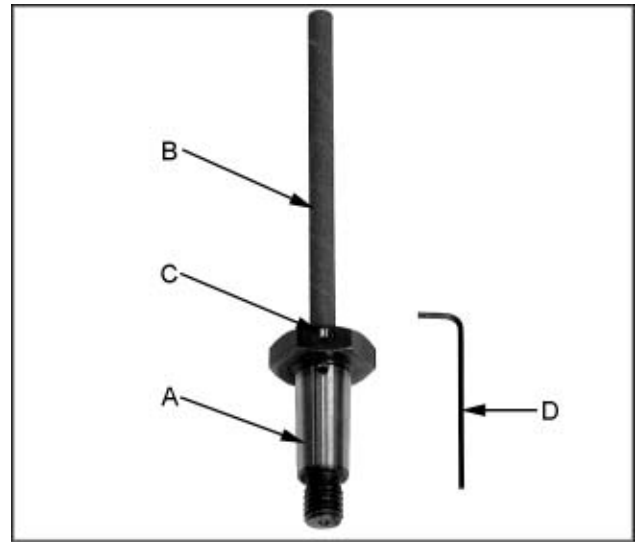

Fig. 1
1. Thoroughly clean the arbors (A, Fig. 1) on all of the spindle assemblies. Also clean the arbor housing on the sander.
2. Slip the sanding sleeve (B, Fig. 1) over the spindle and hold in place by tightening the set screw (C, Fig. 1) with the supplied 2mm hex wrench.